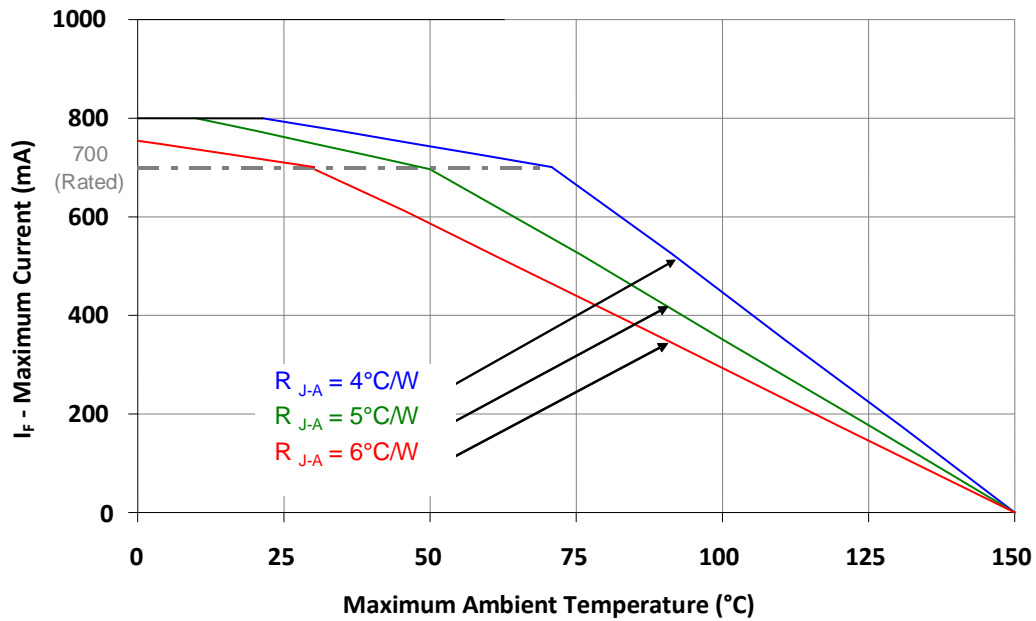

Figure 10: Maximum forward current vs. ambient temperature based on $T_{J(\text{MAX})} = 150^{\circ}\text{C}$.
1. Maximum DC forward current (per die) is determined by the overall thermal resistance and ambient temperature. Follow the curves in Figure 10 for current de-rating.
Notes for Figure 10: